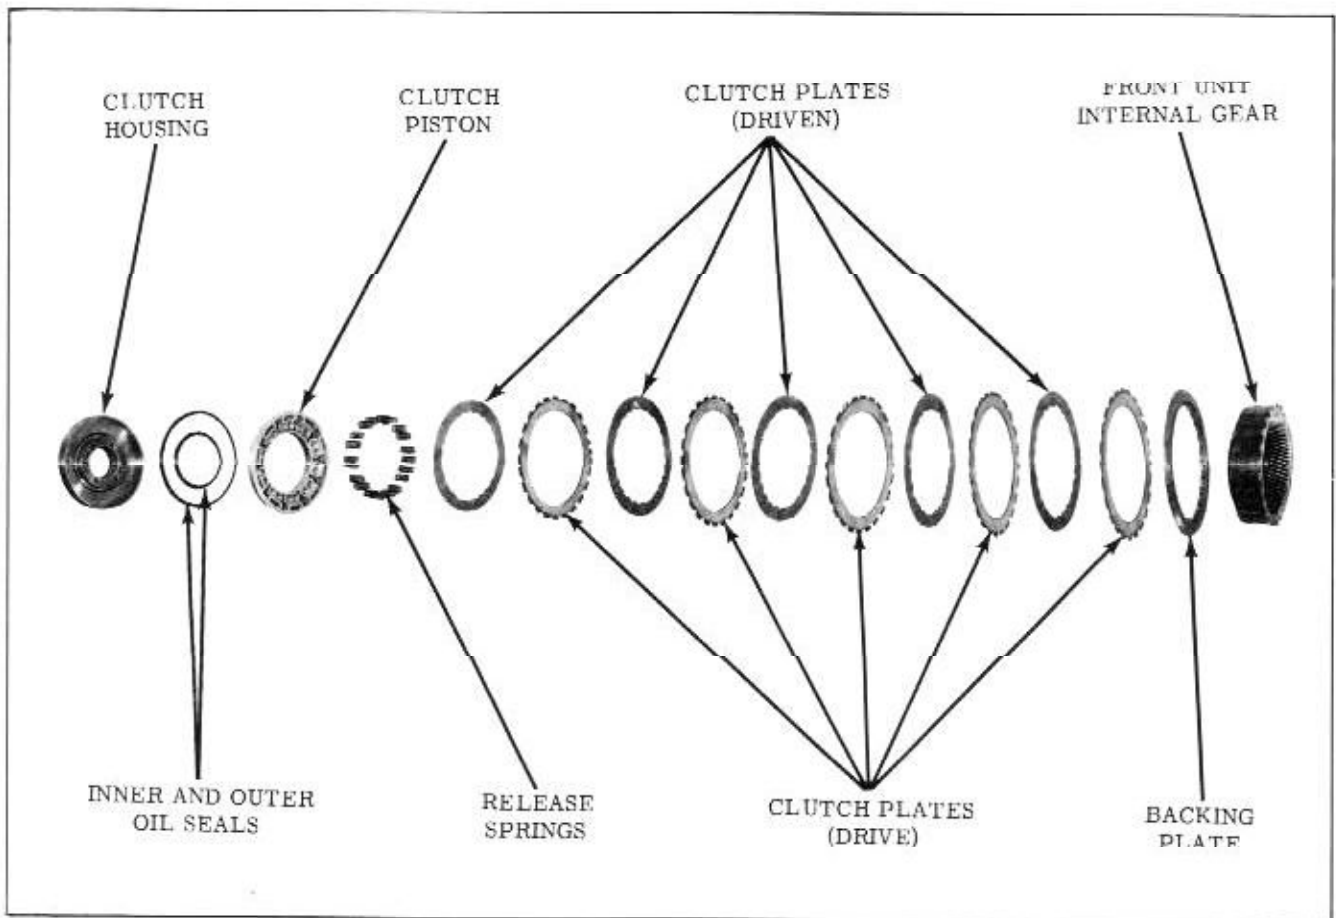

Fig. 3-62 Front Unit Clutch Assembly
4. Remove front unit internal gear, backing plate, and discs. (Fig. 3-62)